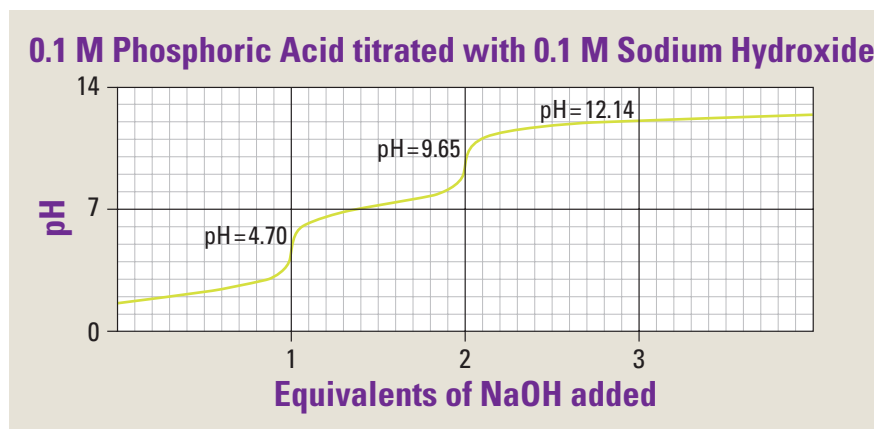

Figure 4. Titration curve for phosphoric acid
- Phosphoric acid and citric acid are both triprotic. The titration curve for phosphoric acid shows three distinct buffering regions (see Figure 4):